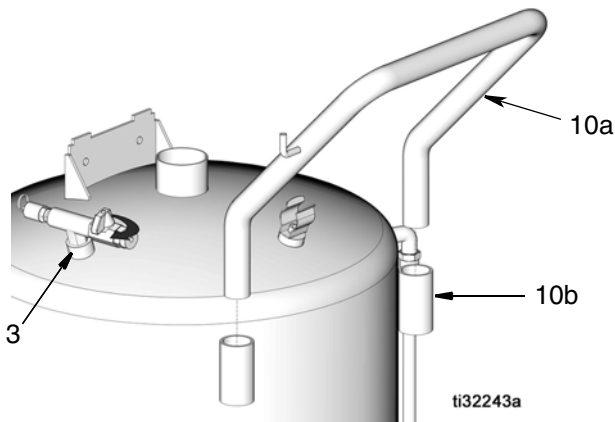

FIG. 8
3. Insert handle (10a) into brackets (10b) and secure with screws provided (FIG. 8).
4. Apply thread sealant to user supplied air inlet fitting and install it into the air inlet (3) (FIG. 8).
5. Close ball valve (a) (FIG. 8).